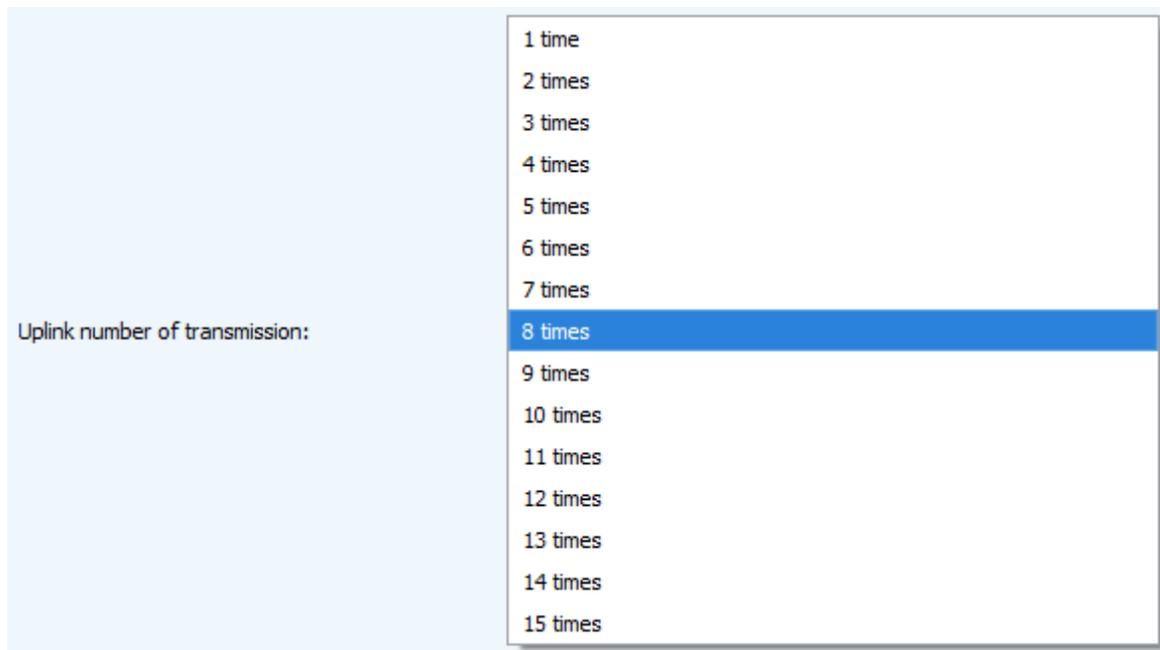

Figure 23 – Choice of the uplink number
3.5.2.7 «Uplink number of transmission» (not displayed in the "Simple" mode) – sets the number of uplink during the one communication session (fig. 23. if the "Confirmed uplinks" function is disabled, the